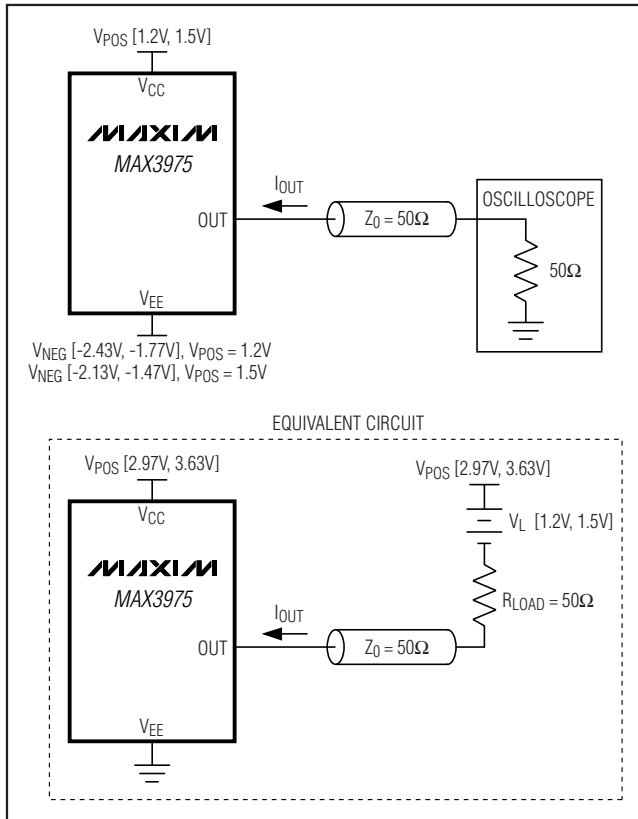

Figure 1. AC Characterization Circuit
**Note 1:** Guaranteed by design and characterization using the circuit shown in Figure 1.